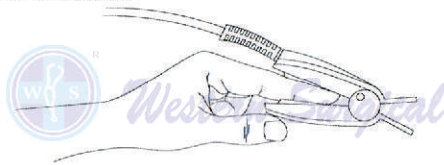

Figure6-1 Mounting of the probe
- 2) Attach the probe to the appropriate site of the patient finger, as shown in Figure6-1.